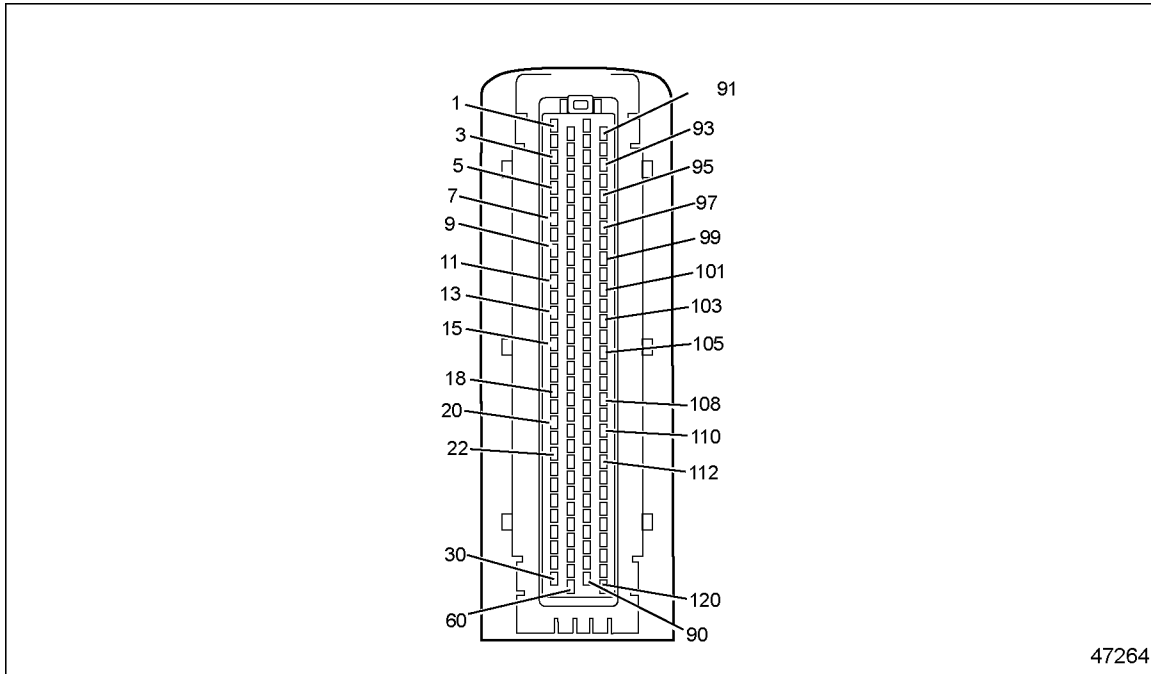

Figure 24-1 120-pin MCM Connector
- [a] If the voltage is less than 11.5 volts, repair the open between pin G of the 23-pin connector and pin 22 of the MCM 120-pin connector (see Figure 24-1). Refer to section 24.1.3.1.